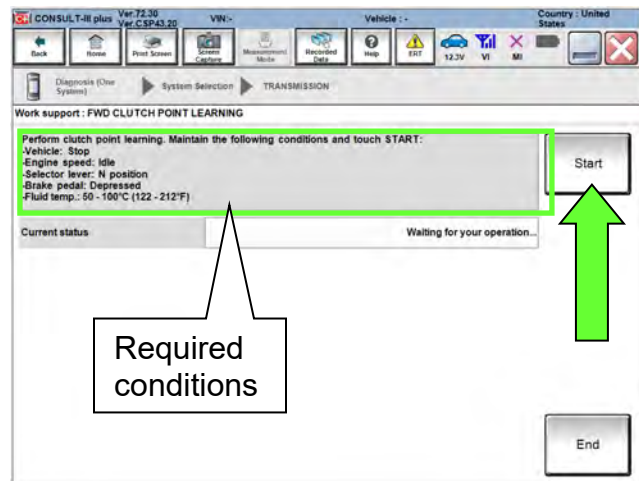

Figure 8L
15. With the engine still running and at idle, depress the brake pedal and shift the CVT into neutral (N).
- Confirm that all of the conditions indicated in Figure 8L are being met.
17. While maintaining all conditions shown in Figure 8L and the Current status indicates EXECUTING, shift the CVT into **R** and then wait until the Current status indicates COMPLETED.